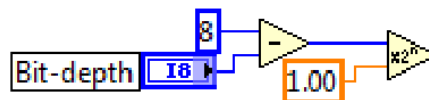

Figure 8: Wiring for Mathematical Function
- As shown in Figure 8, place **Subtract** and **Scale By Power of 2** located on **Function>>Mathematics>>Numeric**. Then, wire them.